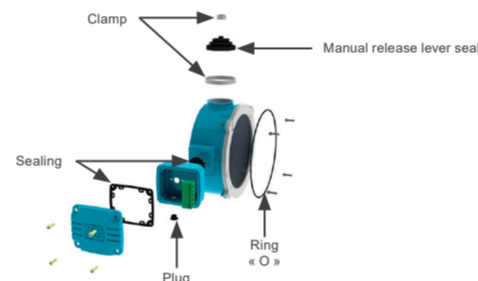

Figure 5.4: Sealing components of W-Easy Maintenance brake motors
Note: (1) Check the status of the sealing components, such as, terminal box, protection cover and manual release lever seals, and replace them, if required. (2) W-Easy Maintenance brake sealing components are shown in Figure 5.4.
9. For motors supplied with manual release, reinstall the manual release lever and its sealing (which must be fastened by clamps - see Figure 5.4).